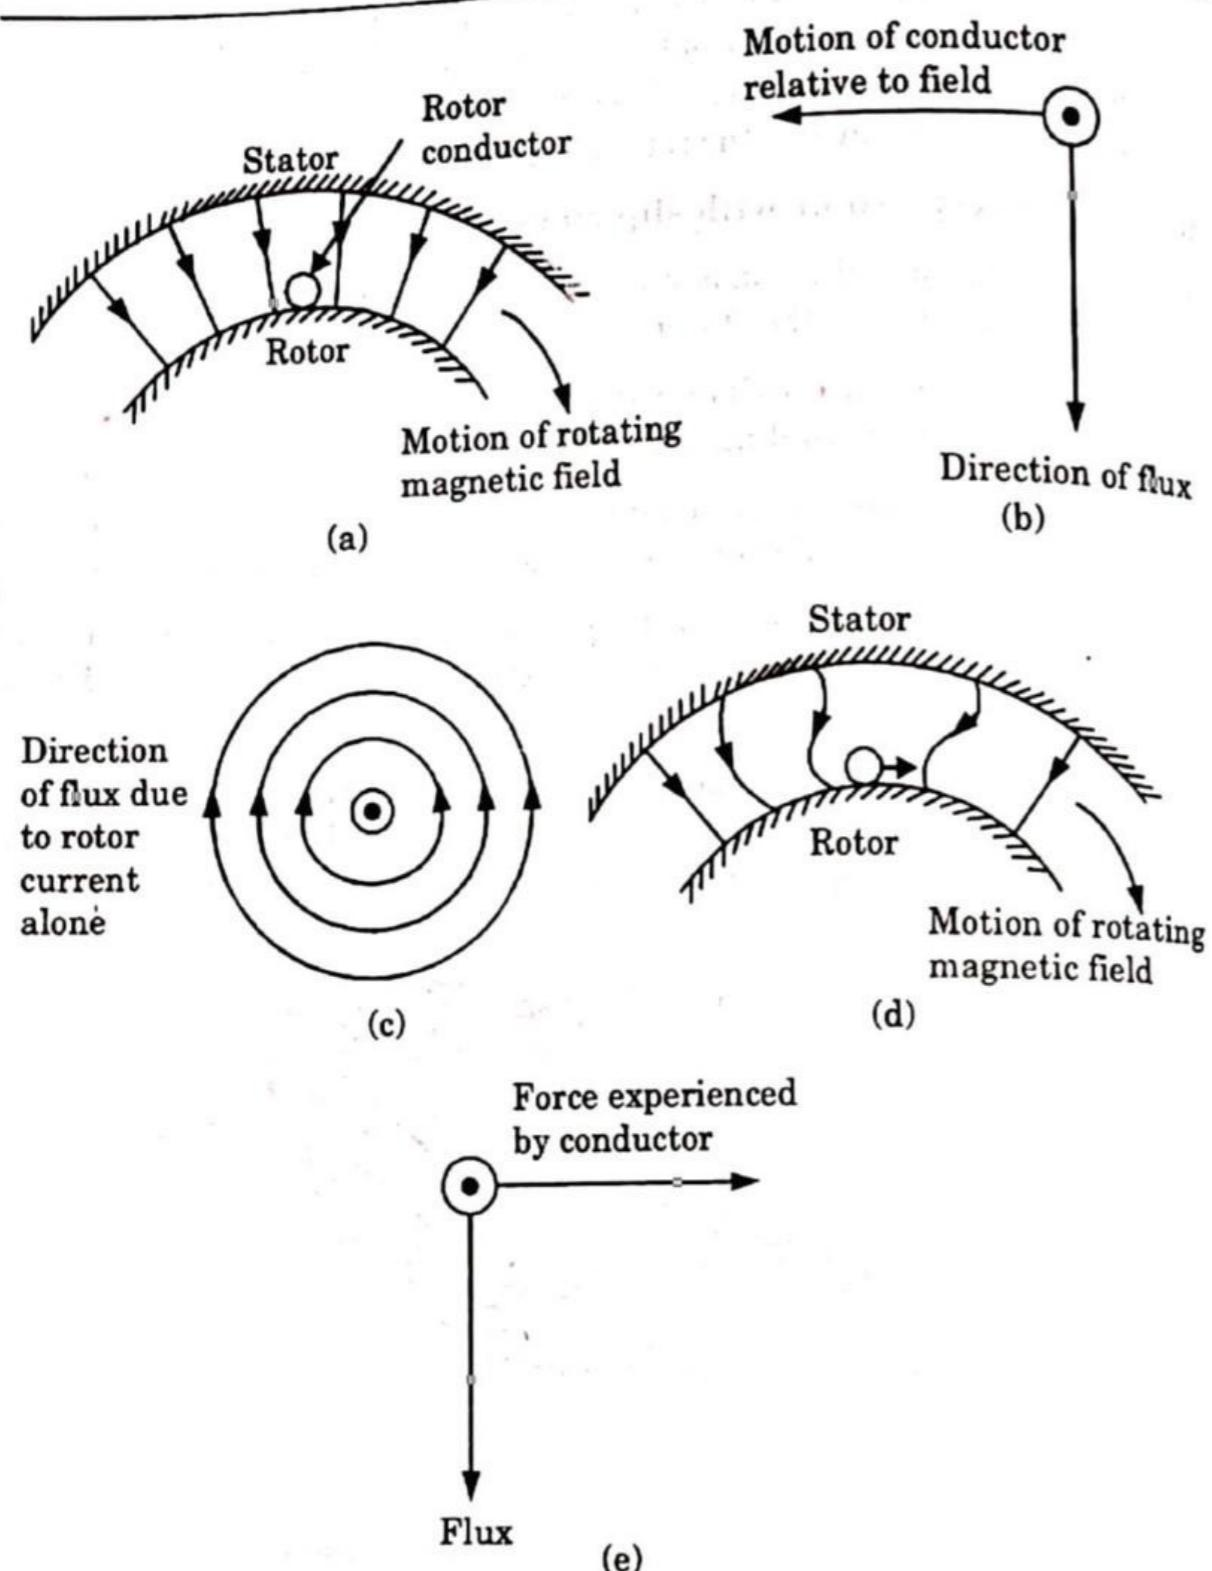

Fig. 4.19.1.
- Let us consider that the rotor is stationary and one conductor is on the rotor as shown in Fig. 4.19.1.
5. By right-hand rule the direction of induced current is downward as shown in Fig. 4.19.1(b).
6. Now the current in the rotor conductor produces its own magnetic field as shown in Fig. 4.19.1(c) due to this a force is produced on the rotor conductor.